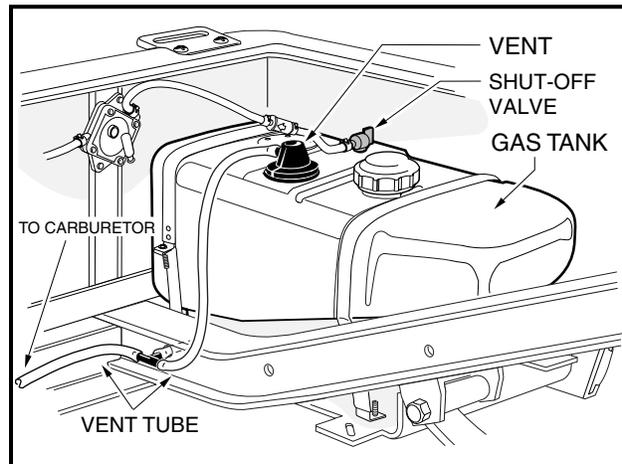

FIGURE 15
- **GASOLINE VEHICLE ONLY:** TURN FUEL SHUT-OFF VALVE TO **OFF (FIGURE 15, PAGE 12)**.